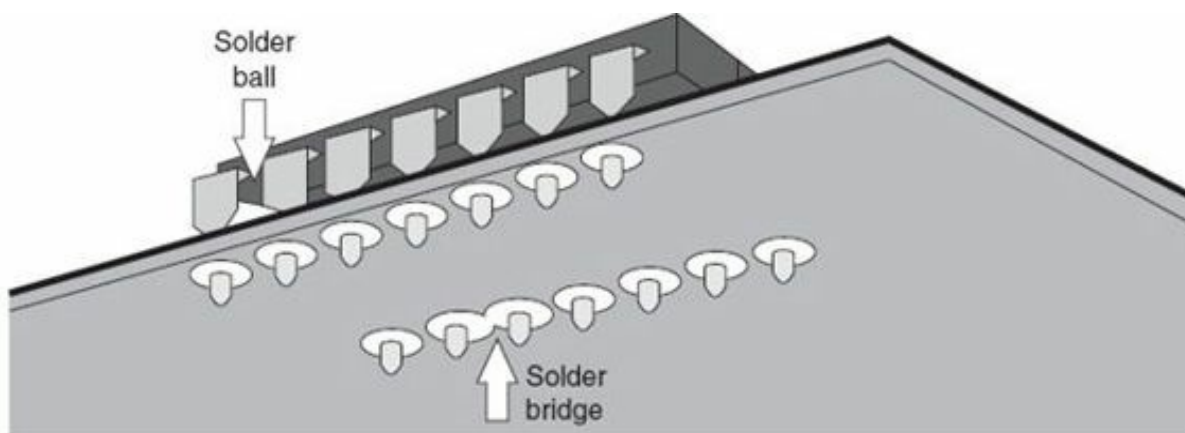

FIGURE 7.32 Solder bridge and solder ball shorts.
- Too much solder (solder bridge) at a joint could cause shorts. For example, in Fig. 7.32, due to poor soldering techniques, a ball and a bridge of solder were formed which connected two pins together causing a short.